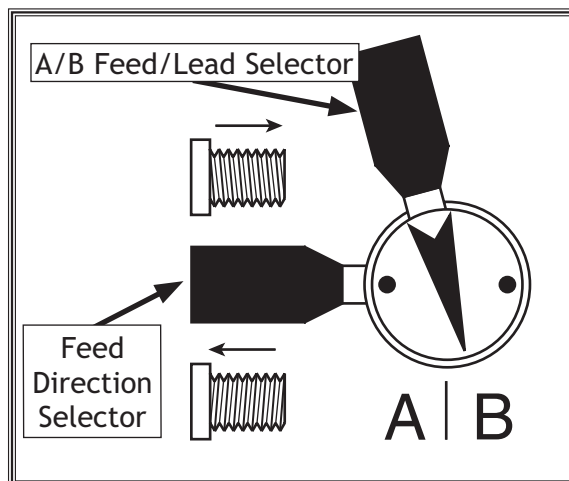

Figure 54. Feed direction and A/B feed/lead selector.
1. Move the feed direction lever to the desired setting. The arrow above the screw thread icon indicates the direction of longitudinal feed. Cross feed directions are as follows: when the arrow points to the left, the cross feed is away from the spindle axis; when arrow points to the right, the cross feed is towards the spindle axis (see **Figure 54**).
6. Move the feed direction selector to the desired direction for movement (see **Figure 54**).